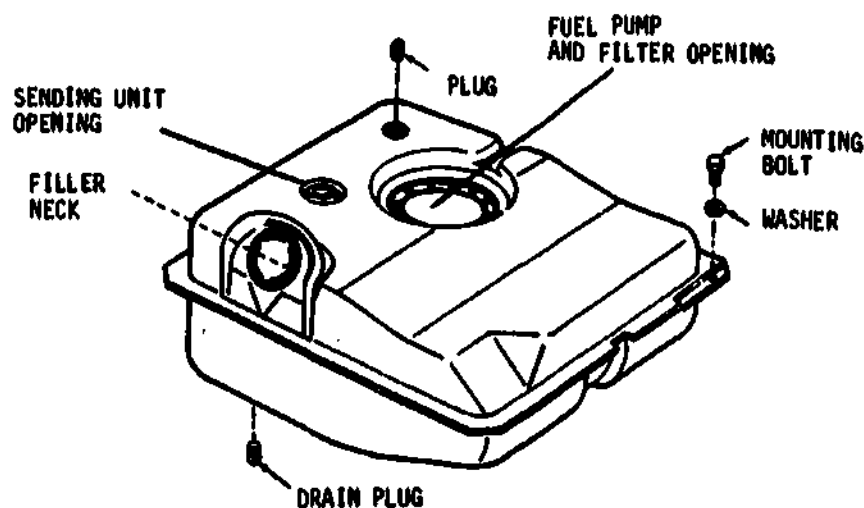

Fig 2-2. Fuel tank.
- You will start with the fuel tank on the M151 1/4-ton truck (fig 2-2). About the first thing you would see on this would be the filler neck cap, so take it off and take a good look at it. Some of the things you should look for are dirt and rust. Neither of these should be given a chance to get into the fuel tank because they can cause a lot of trouble. In fact, they probably cause more fuel system trouble than anything else, except possibly water. Another thing to look for on the cap is the retaining chain, which keeps the cap from being dropped and lost. The gasket in the cap must form a seal between the cap and the filler neck.